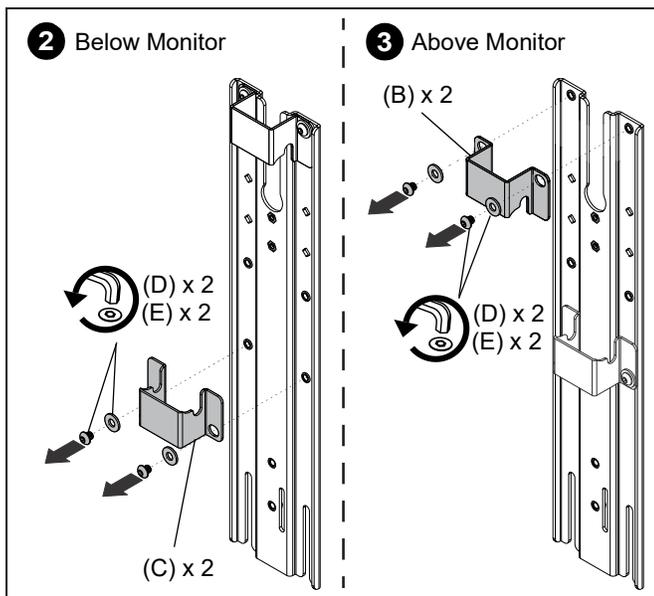

Figure 2
2. **Below monitor:** Remove the center rail bracket (C) from the lower adjustment assembly (H). (See Figure 2)
3. **Above monitor:** Remove the edge rail bracket (B) from lower adjustment assembly (H). (See Figure 2)